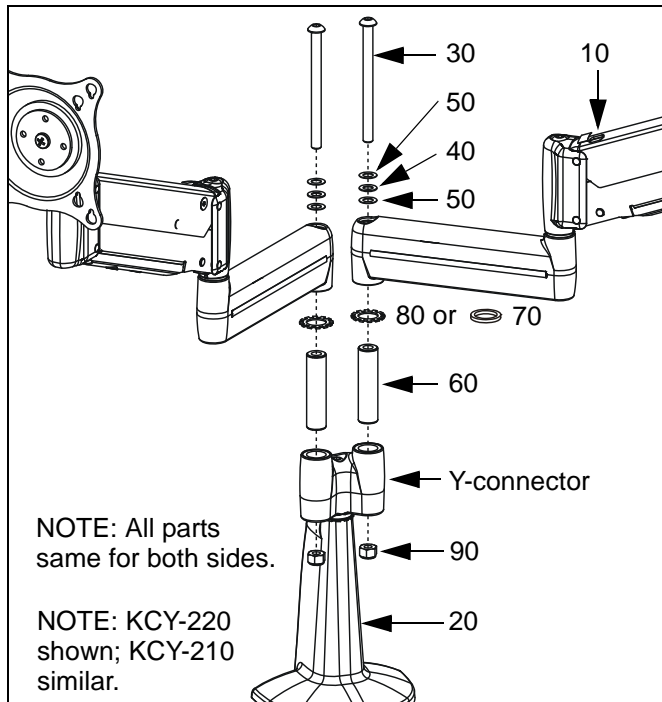
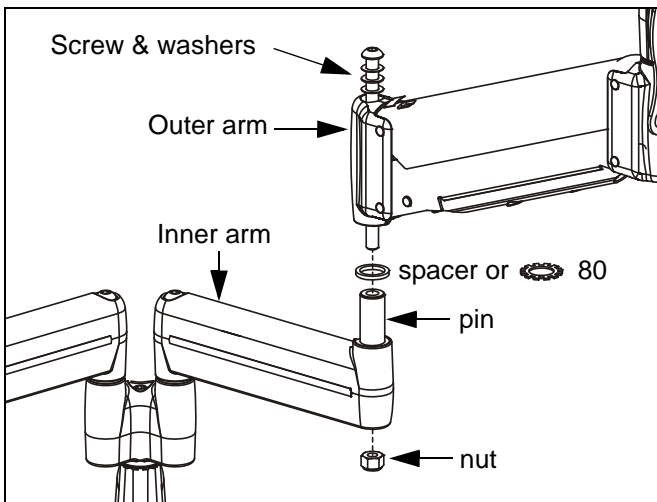

Figure 18: Multi-Dual Arm Assembly
Figure 20: Multi-Dual Arm Modification
2. Insert pin (60) into Y-connector upper bore in mount (20) (See Figure 18).
3. Install spacer (70) or washer (80), as desired, on pin (60) (See Figure 18).
4. Insert arm assembly (10) on pin (60) (See Figure 18).
5. While holding nut (90) in lower bore of Y-connector, insert screw (30) through washer (50), washer (40), washer (50), arm assembly (10), and Y-connector, into nut (90) (See Figure 18). Loosely install screw (30) using 3/16" hex key.
1. Using 3/16" hex key, loosen screw until nut can be removed (See Figure 20). Retain nut. Screw and washers may remain in outer arm.
3. Remove spacer from pin (See Figure 20).
4. Install washer (80) on pin (See Figure 20).
5. Re-install outer arm (with screw and washers) on pin (See Figure 20).
6. Insert and hold nut in lower bore of inner arm (See Figure 20).
7. Tighten screw as required using 3/16" hex key (See Figure 20).
CAUTION: If washer (80) has been used to assemble KCY-210/-220 arms, then forced movement of arms without loosening screw (30) will damage arm and/or Y-connector (See Figure 18)(See Figure 20).